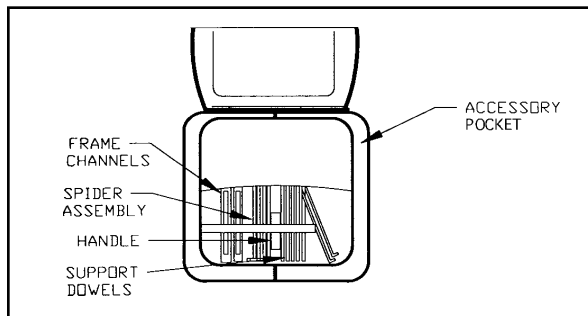

Figure 5b—Unpacking accessory pocket
2. Holding the 2' x 2' (600 x 600 mm) hood frame, gently lift the entire instrument assembly and set it to the side of the carrying case. The accessory pocket, located underneath the DB 150 Balometer, is now exposed (figure 5b). It contains the spider assembly, support dowels and handle. Remove these items from the inside pocket.